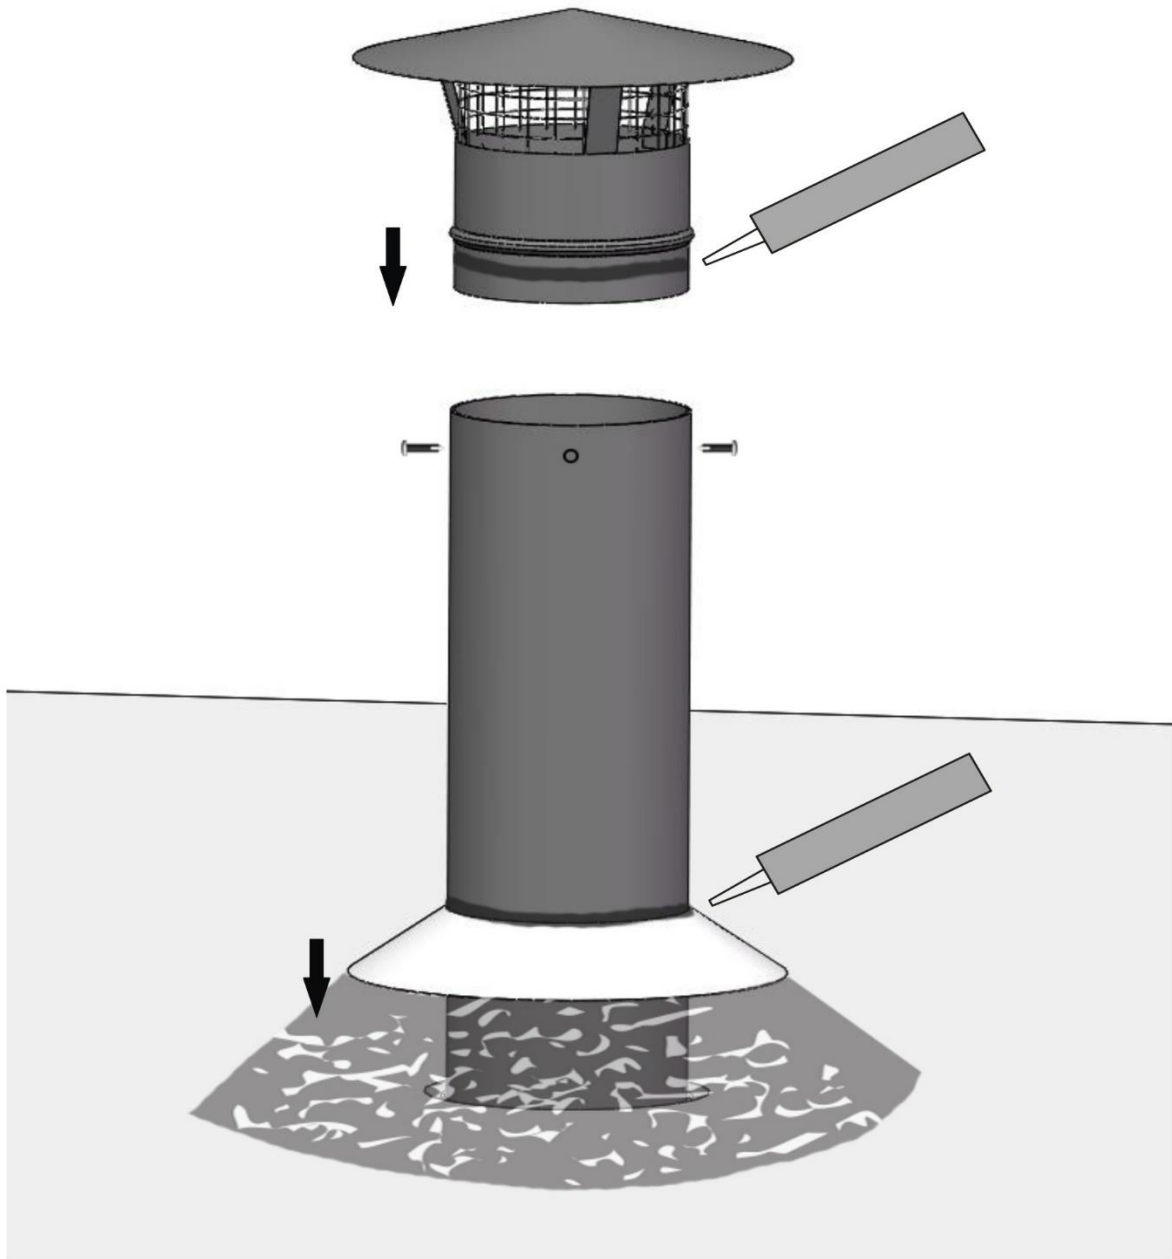

Figure 6
⑥ Make sure the chimney is straight and screwed down. Connect rain hat and chimney put high temperature resistant sealant. Chimney and rain skirt and flange and roofing joints are sealed with cement. See figure 6. Ensure the seal does not leak and the installation is completed. Check the above installation steps to ensure that the screws and components are securely fastened.
⑦ If there is something wrong, please adjust it. If you are not sure, please consult a professional installation technician.